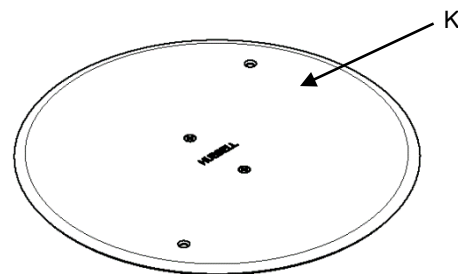

Fig. 6
3. Install abandonment plate (K) Fig. 6. Coat screws with electrical type of RTV silicone sealant to ensure water tightness before installing. Torque screws (J) to 4-6 in-lbs (0,5-0,7 Nm). Apply a ¼ [6,4mm] thick continuous bead of electrical type of RTV silicone sealant fully around the perimeter on the underside of the abandonment plate to ensure water tightness.